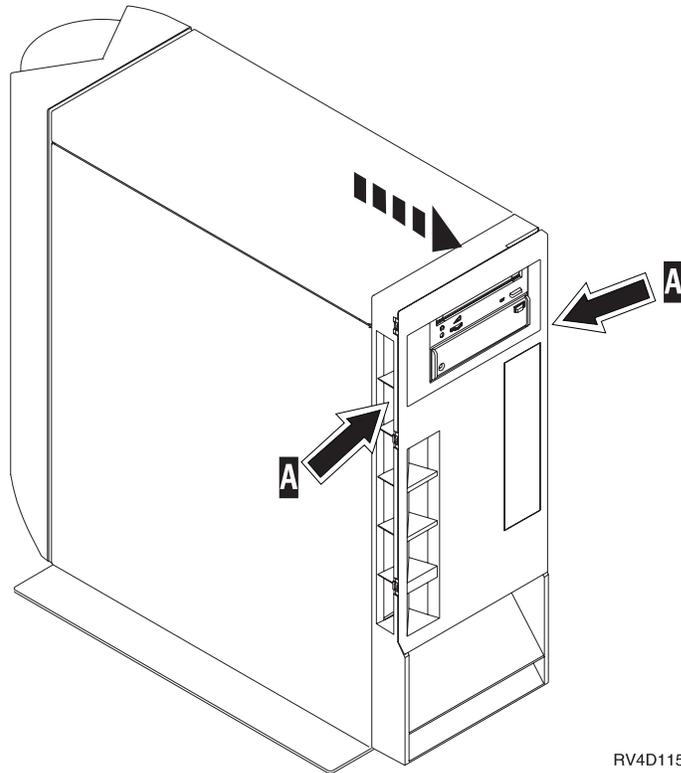

Figure 2. Remove System Unit Front Cover
- ___ 7. Remove the system unit front cover by gripping the sides of the cover **A** and pulling the cover toward you (Figure 2 on page 4).